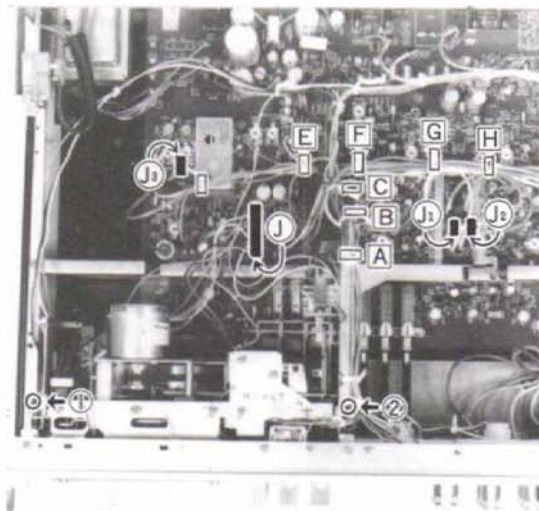

Fig. 3
- b. Remove the bound sections from [A] to [H] shown Fig. 3. (The remaining lines except for mechanical parts must be temporarily bound.)
- c. Remove (J) and (J₁) to (J₃) shown in Fig. 3.
- d. Remove screws (tapping 3 x 6) from (1) to (2) shown in Fig. 3.
Remove the screws from ① to ② shown in Fig. 3 and slide the mechanical assembly, and it can be taken out.